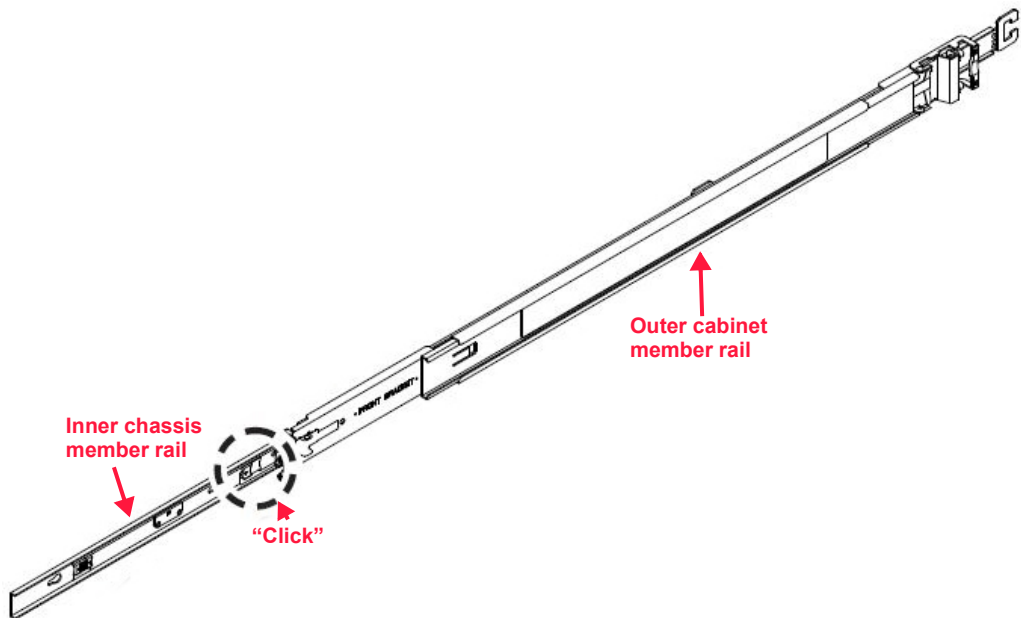

Figure 4.11 Removing the inner rail
1. Slide the inner chassis member rail out from the outer cabinet member rail until there is an audible click. The rail locks in the serviceable position as shown in Figure 4.11.